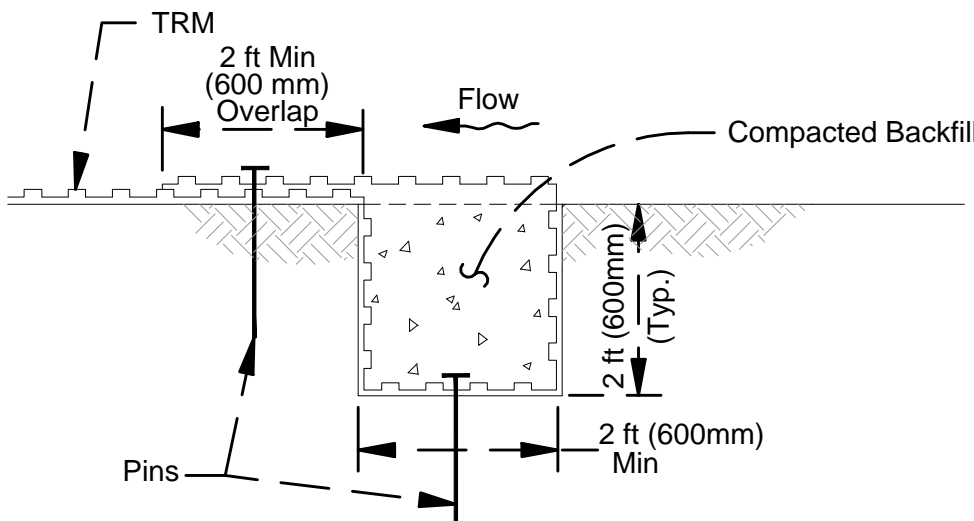

FIGURE 8: TERMINAL TRENCH (UPSTREAM) DETAIL
- Excavate terminal trench 24 in wide x 24 in deep (600 x 600 mm) minimum across the channel at the upstream end of the project (see Figure 8). Deeper terminal trench and/or hard armoring may be required in channels that have the potential for scour.
- Pin, backfill and compact upstream end of mat in terminal trench (see Figure 8). Terminal trench pinning devices should be spaced on 12 in (300 mm) centers (see Figure 8). Unroll mat in downstream direction over compacted trench with a minimum 24 in (600 mm) lap. Secure lap with pinning devices on 12 in (300 mm) centers.